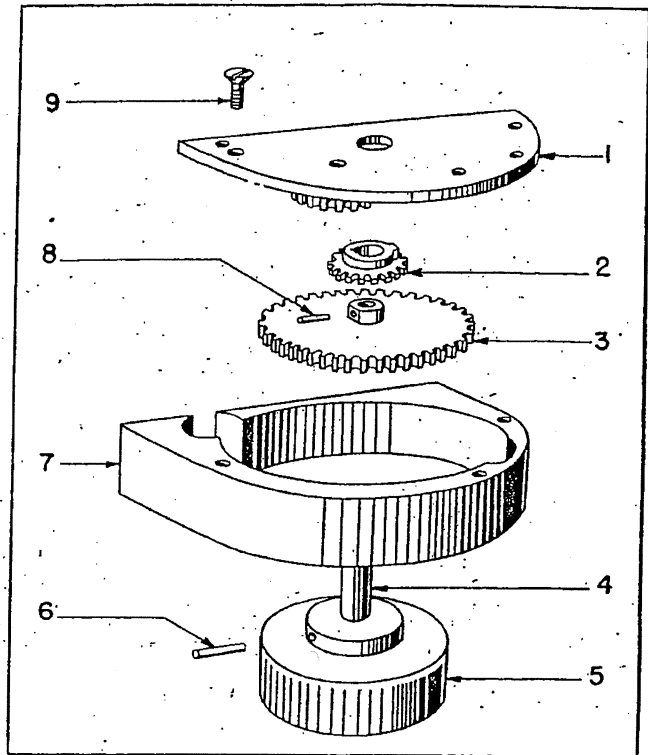

Figure 18—Drive Assembly
m. DRIVE ASSEMBLY. (See figure 18.)—Remove three flathead screws (9) and lift off cover assembly (1). Lift off drive gear stop (2). Drive out taper pins to further disassemble the drive shaft assembly.
KEY TO FIGURE 18
g. DRIVE ASSEMBLY. (See figure 18.)—To the drive shaft (4) add control knob (5), fasten with taper pin (6) and insert into gear housing (7), add drive gear (3) and fasten with taper pin (8). Over the hub of the drive gear (3) add drive gear stop (2) so that the teeth of same rest against the drive gear (3). Add cover assembly (1) and fasten with three flat-head screws (9).